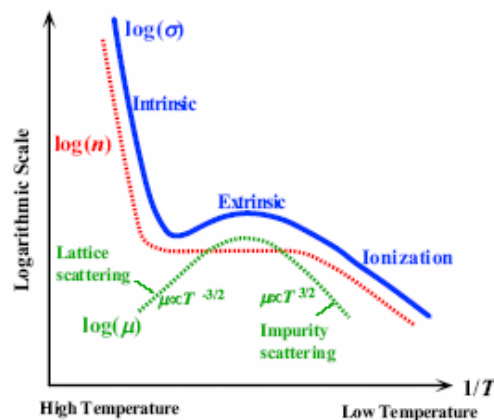

Fig. 5.20: Temperature dependence of electrical conductivity for a doped (n-type) semiconductor.
e) Refer to Figure 5.20. (2 pts)